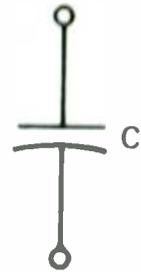

FIGURE 2
**10** Your answer is correct. A capacitor is formed when two metallic plates are separated from each other by a thin layer of insulating material called a dielectric. The schematic symbol for a capacitor is shown in Figure 2. If a battery is placed across the capacitor plates, current cannot flow due to the dielectric material. However, the potential across the capacitor will equal the battery voltage. An electrostatic field exists across the capacitor plates and the capacitor is said to be charged. If the battery is removed, the parallel plates remain charged until an external circuit allows the plates to discharge. The charge on the plates is expressed using the relationship  $Q = CE$ , where  $Q$  represents the charge in coulombs. In this expression,  $C$  denotes the value of capacitance in farads and  $E$  is the voltage across the capacitor plates. The farad is such a large value of capacitance that microfarads ( $\mu F = 10^{-6}F$ ) and picofarads ( $pF = 10^{-12}F$ ) are more common units. A capacitor stores energy in its electrostatic field and is calculated using the expression  $\frac{1}{2}CE^2$ .